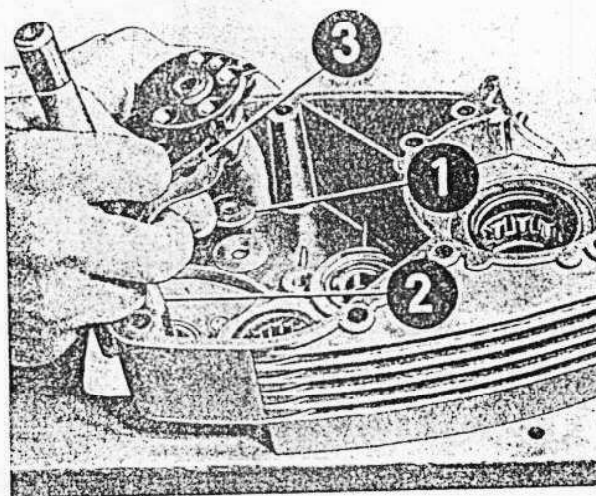

Fig. 23: Installing the gearshifting unit
- Put the thrust washer 21/8/1,5 (fig. 23/1) for the gearshifting assy. into the crankcase over the bore for axle of ratchet wheel and fix it with grease.
- Mount the gearshifting shaft (fig. 23/2) complete with the gearshifting unit (fig. 23/3).